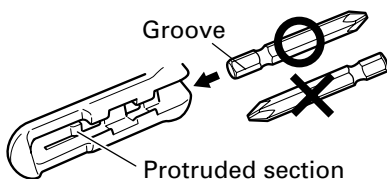

Fig. 9
Slide the bit from the side in the direction of Fig. 9, and then insert firmly until the groove on the bit locks in the protruded section of the hook.
- The bit may come loose from the hook and cause bodily injury when reversing the direction of the bit as shown in Fig. 9 or when using the driver with the bit stored incomplete.